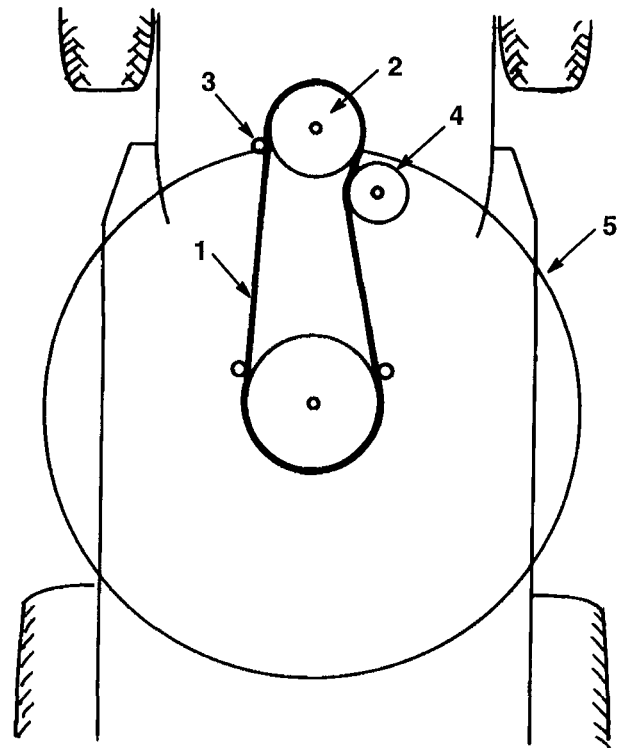

Figure 38
- Remove the mower belt from the lower engine pulley (Fig. 38). If you are careful, you can flex the belt guide(s) just far enough away from the pulley to remove the belt. If it is too difficult to remove the belt, loosen the bolts and nuts securing the belt guides.
4. Install mower belt onto the lower engine pulley (Fig. 38). If you are careful, you can flex the belt guide(s) just far enough away from the pulley to install the belt. If it is too difficult to install the belt, loosen the bolts and nuts securing the belt guides, loosen the bolts and nuts securing the belt guides.